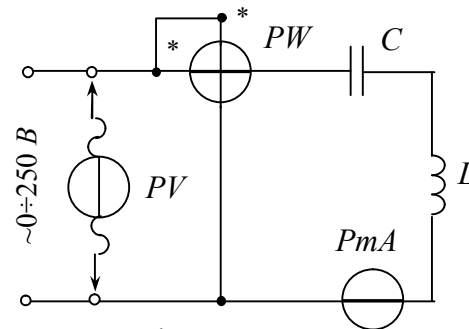

Fig. 4.11
1. Collect the circuit (fig. 4.11) and connect it to the clamps $\langle \sim \rangle$ $\langle 0 \div 250 V \rangle$. Place $LATR$ switch in position $\langle \sim \rangle$, $0 \div 250 V$.
The name and purpose of the work. Homework – the calculation of the circuit. Schematic diagram of the investigated circuit (fig 4.11). Tables 4.2, 4.3. The substitutional schemes of coil and capacitor and calculations of their parameters. The vector diagrams. Conclusions.